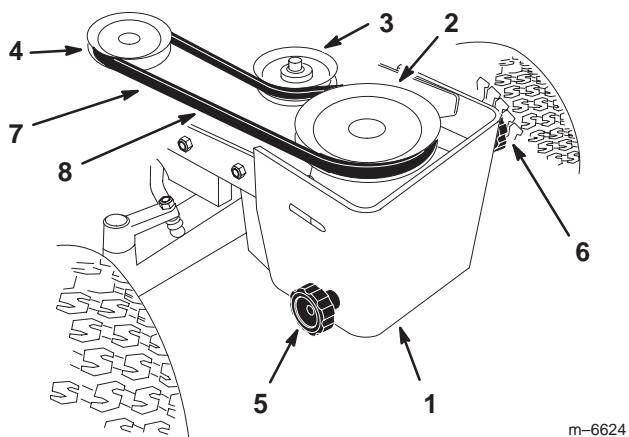

Figure 33
1. Turn the left knob on the front pulley box to loosen the PTO drive belt (Fig. 33).
2. Remove the PTO belt from the clutch pulley (Fig. 33).
3. Remove the PTO belt from the upper pulley and upper idler pulley in the pulley box (Fig. 33).
4. Install the PTO new belt onto the clutch pulley (Fig. 33).
5. Install the PTO belt onto the upper pulley and upper idler pulley in the pulley box (Fig. 33).
6. Turn the left knob on the front pulley box to tighten the PTO drive belt (Fig. 33). There needs to be a 1/2 inch (13 mm) deflection in the belt.